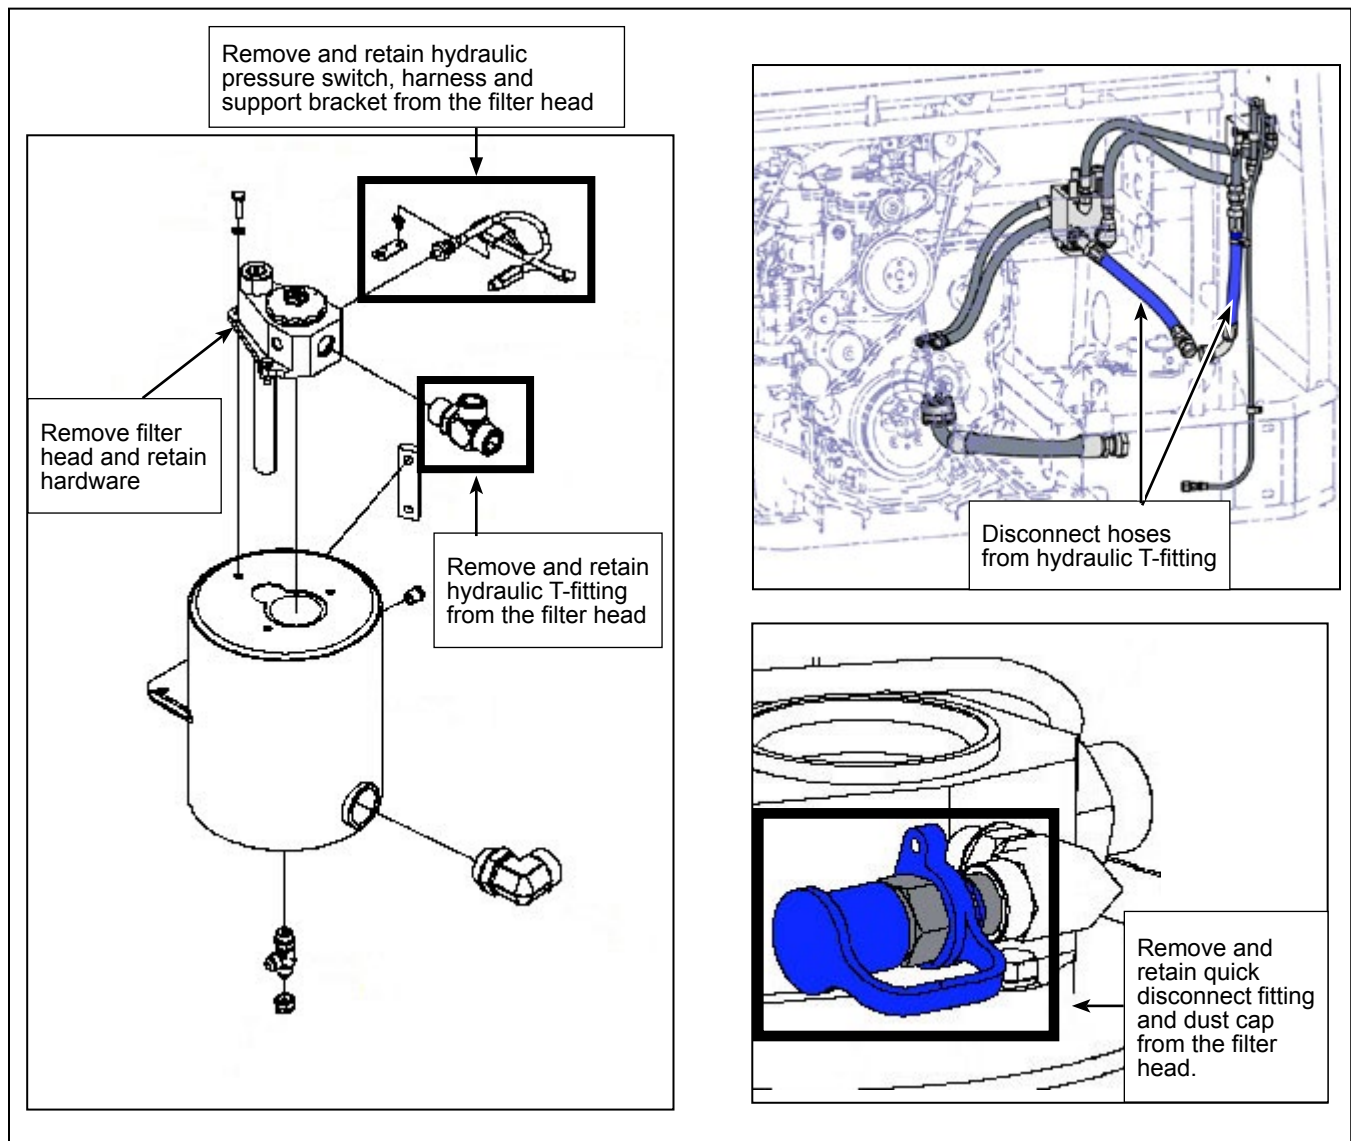

Figure 3 - Hydraulic Parts to Retain for Filter Head and Installation of New Hose
- 1.11. Disconnect the hydraulic hoses from the filter head. Install a clean rag or clean plastic bag at the end of the disconnected hydraulic hoses. See Figure 3.
- 1.12. Disconnect and remove the hydraulic pressure sensor. Retain the pressure sensor. See Figure 3.
- 1.14. Remove the filter head from the hydraulic tank. Retain the hardware, harness and harness support bracket. See Figure 3.
- 1.15. Remove the hydraulic T-fitting from the head filter. Clean and retain the hydraulic T-fitting. See Figure 3.
- 1.16. Remove the hydraulic pressure switch from the filter head. Clean and retain the hydraulic pressure switch. See Figure 3.
- 1.17. Remove the quick disconnect fitting and dust cap from the filter head. Retain the quick disconnect fitting and dust cap. See Figure 3.